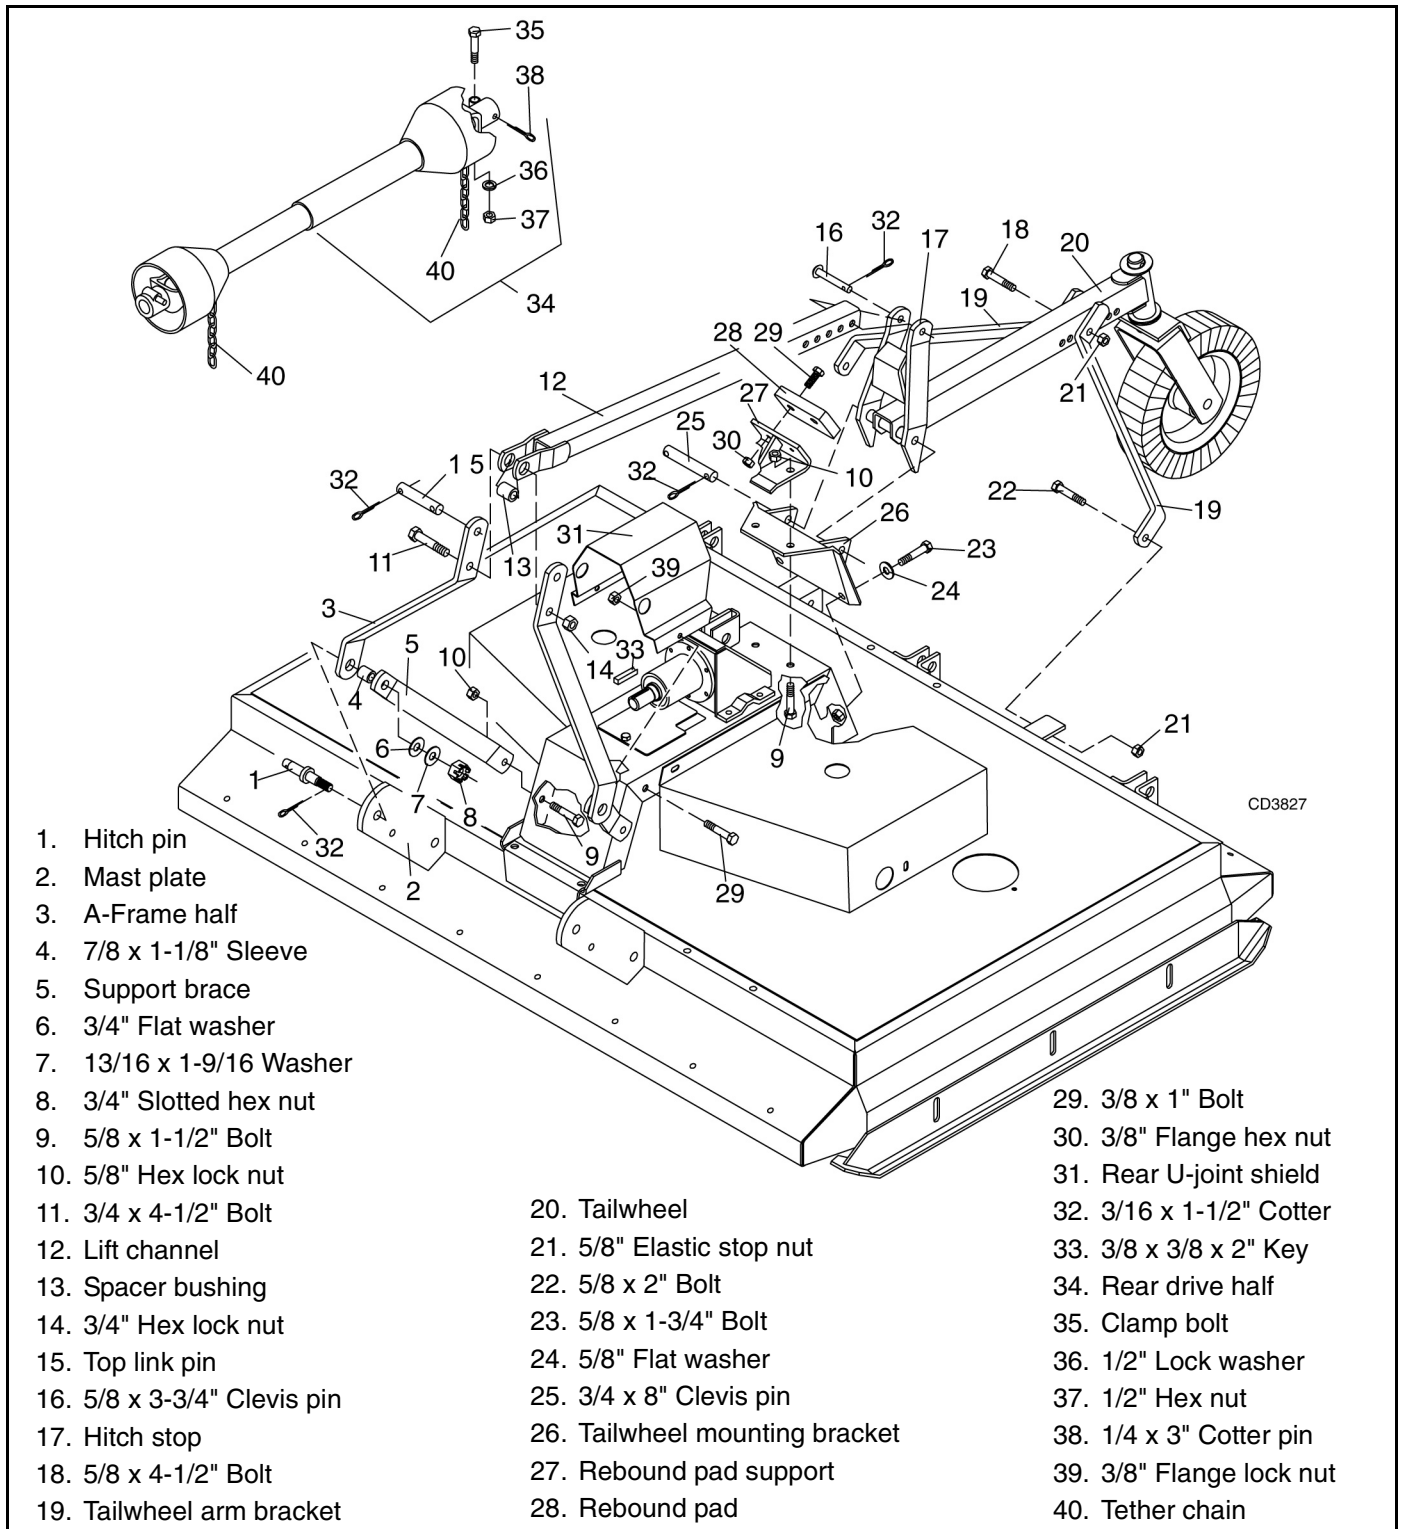

Figure 26. Assembly of MD80 (Mounted Model)
Loosen clamp bolt (35) on rear half of drive, see Figure 26. Install key (33) in gearbox keyway and slide drive onto gearbox input shaft. Install cotter key (38) and